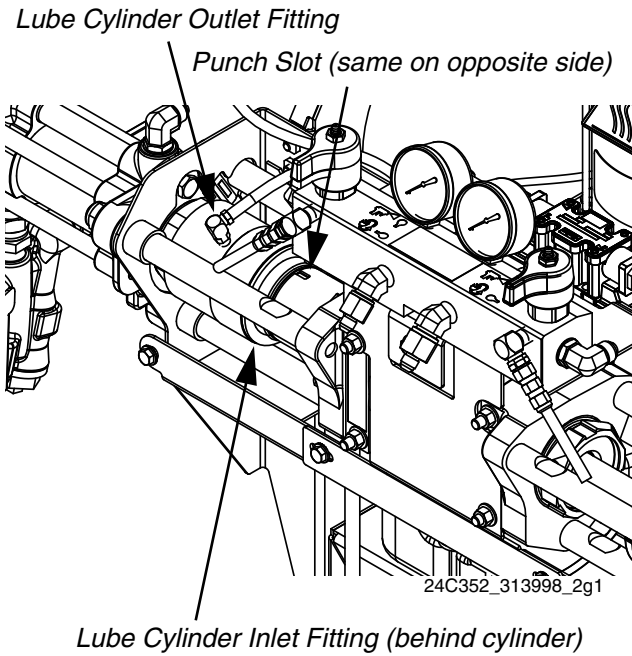

FIG. 1: Lube Cylinder
5. Unthread smaller cylinder from hydraulic driver and slide inside larger cylinder. Use punch slots in lube cylinder to aid rotation if necessary. See FIG. 1.